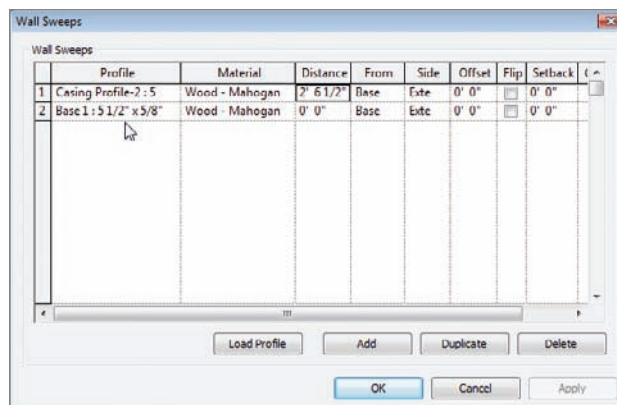

FIGURE 16.10 Configuring the two sweeps
9. In the Wall Sweeps dialog, click the Add button, as shown near the bottom of Figure 16.10.
15. Set Distance 2'-6 1/2" from the base, as shown in Figure 16.10.